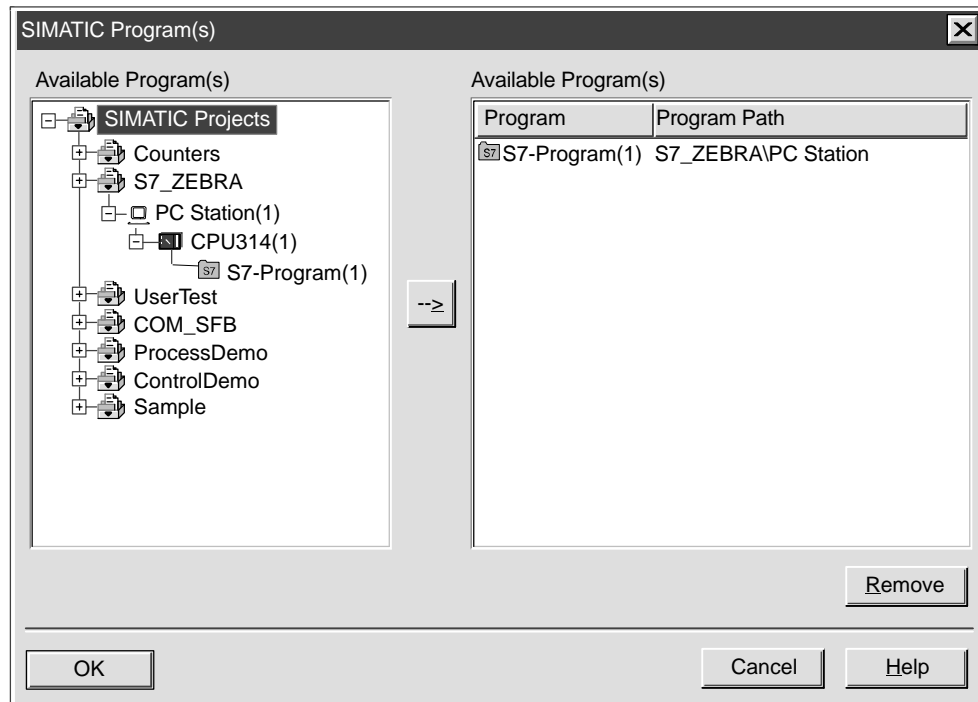

Figure 9-6 Inserting a SIMATIC Program into the Tag File
1. Select the **Insert ► Program** menu command to display the SIMATIC Program(s) browser. See Figure 9-6.
2. Click on the “+” to open the project, station, CPU, and program to be inserted in the tag file. See Figure 9-6.